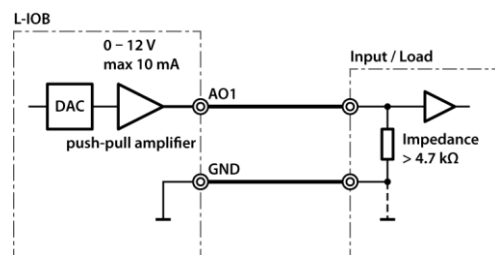

Figure 45: Analog outputs
Figure 45 shows the wiring of the analog outputs (AO). Observe that the analog outputs are labeled '0-10V OUT' but are in fact capable of delivering over 11V.